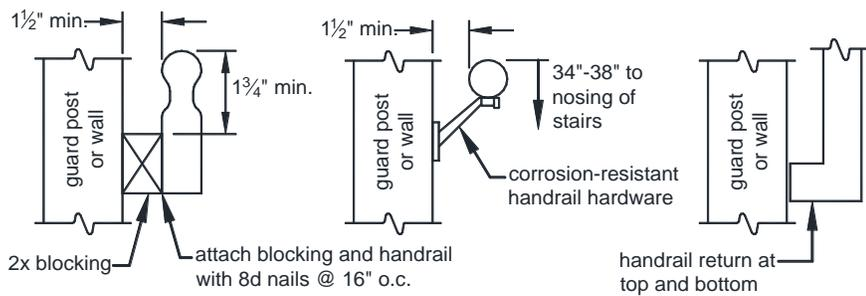

FIGURE 43: HANDRAILS
- Handrails shall be attached to a stair guard or exterior wall acting as a barrier as shown in see FIGURE 43.